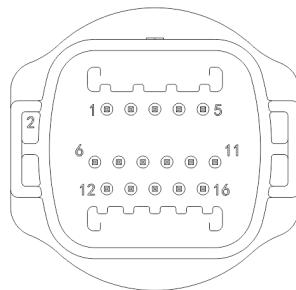

Figure 6.8 Communication port definition diagram
The COM port uses RS485, which can conduct single-machine communication or multi-machine (32 pcs) parallel long distance (500 meters), high speed (port rate 38400) communication. Communication line is recommended to be twisted pair in RS485. The communication line can be connected to pin 3 / 4 and the shielding layer can be connected to pin 1; when multiple machines are in parallel, two RS485-1 connections shall be used at the same time, and the shielding layer can be connected to pin 1 / 2 respectively, as shown in Figure 6.8.
III. Wiring according to the definition of Figure 6.8 RS485 communication interface.
- 2> As shown in Figure 6-8, insert USB to WIFI module into the USB interface, when USB to WIFI module LED lights on.